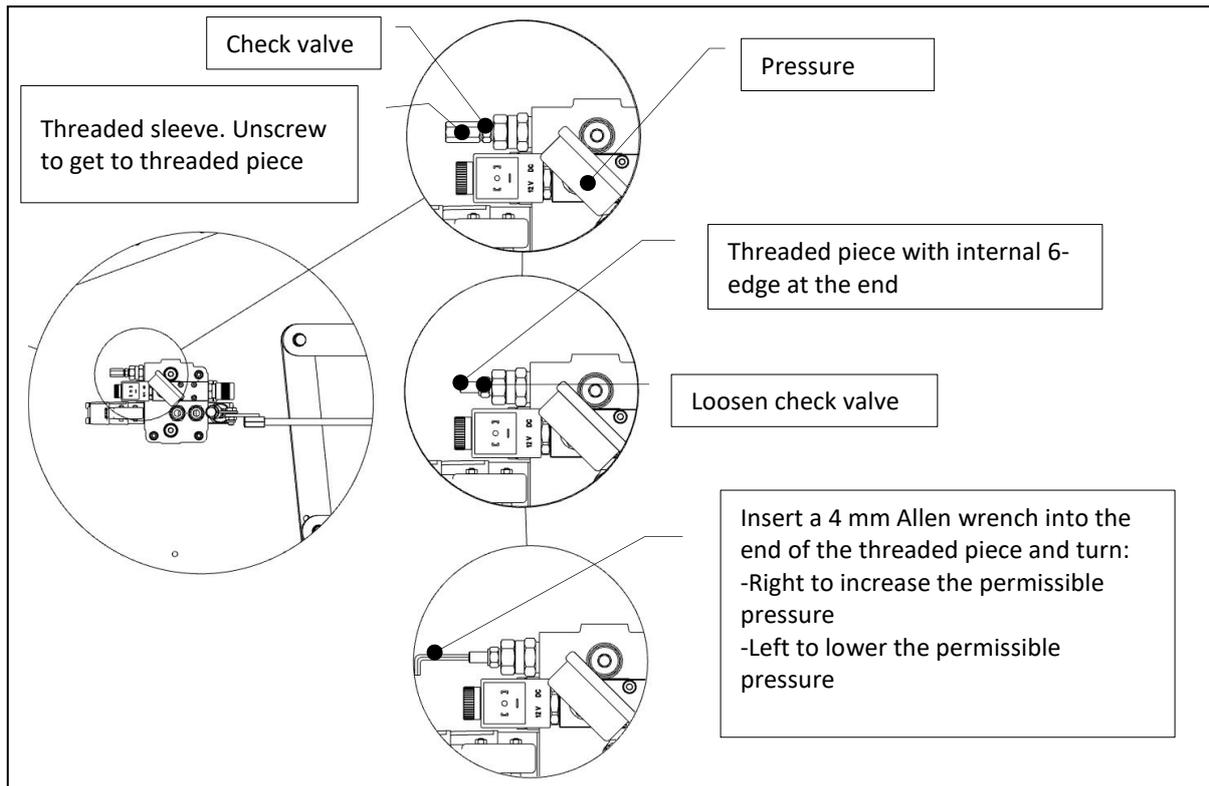

Figure 33
3. When chipping wood, you can read the pressure on the pressure gauge (see Figure 33). The pressure will fluctuate depending on the operating conditions and if it exceeds 150 bar shell The pressure is adjusted downwards.